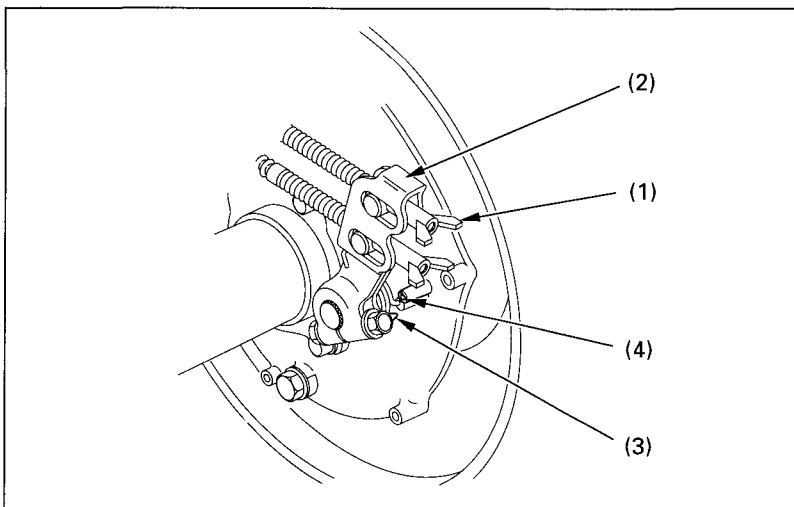

Fig. 4-31 (1) Brake lever adjusting nut
When the brake is applied, an arrow (3) attached to the brake arm (2) moves toward a reference mark (4) on the brake panel (see Fig. 4-31).